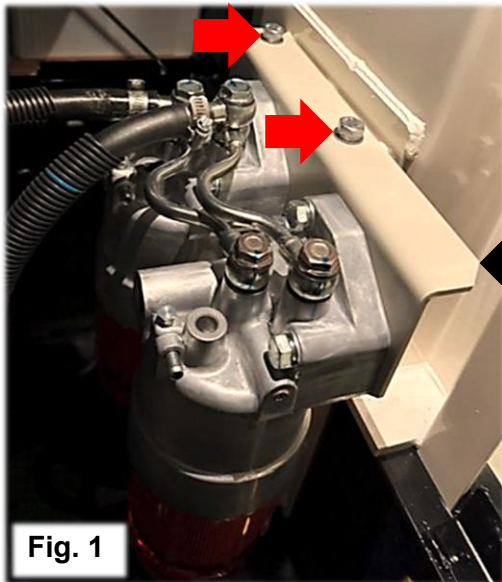

Fig. 1
- a. Remove the pre-fuel filter bracket bolts with a 17mm wrench or socket, Ref. Fig. 1.